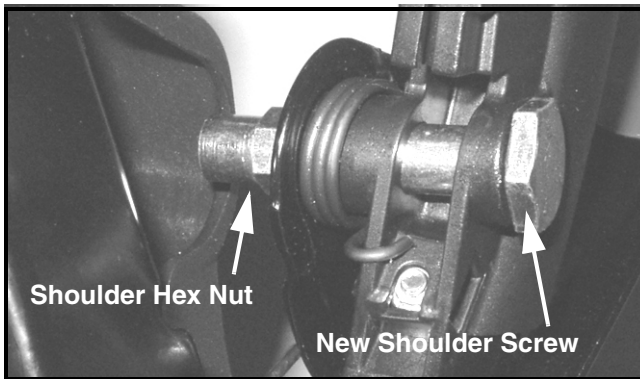

FIGURE 10
22. Using a 3/4" socket and ratchet and a 1/2" open end wrench, install a shoulder hex nut onto the new shoulder screw on the RH drive clutch lever. Tighten securely. See Figure 10.